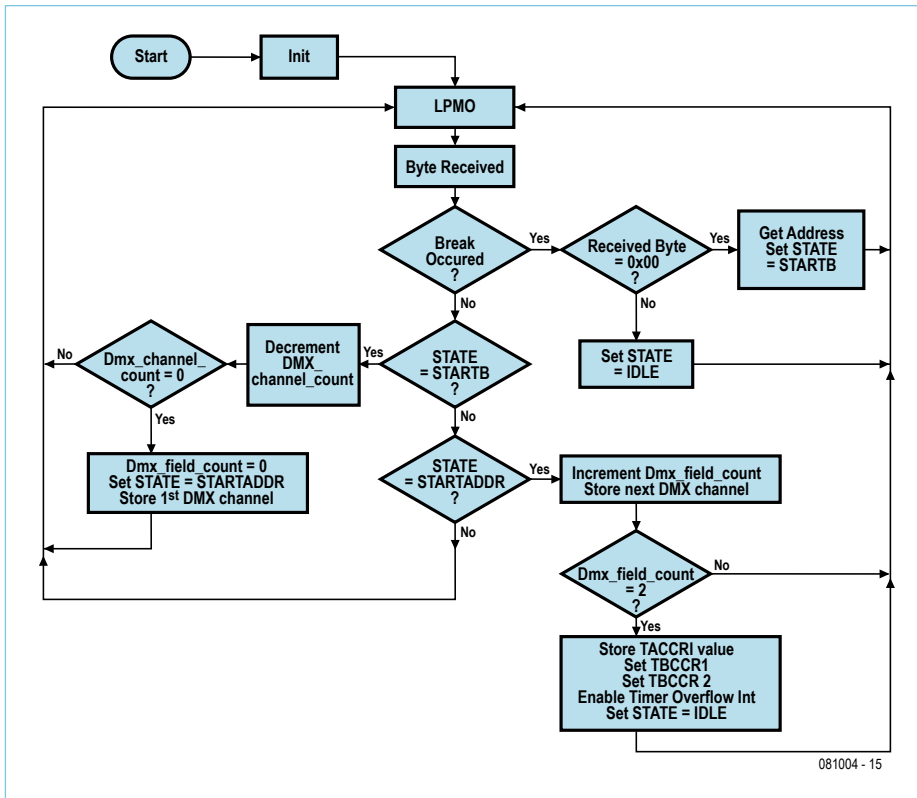

Figure 5. State machine flow chart.
**Figure 5** shows the full logic of the state machine.